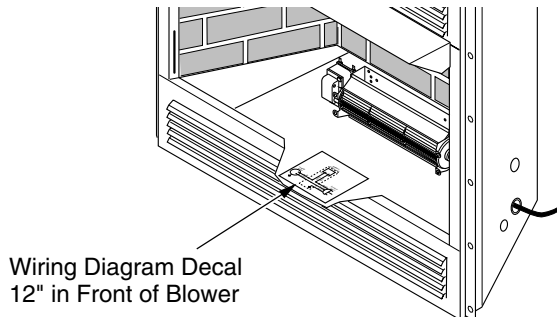

Figure 27 - Location of Wiring Diagram Decal (Model May Vary From Illustration)
10. Peel off the backing paper and stick the supplied wiring diagram decal on the firebox bottom approximately 12" in front of the blower (see Figure 27, page 17).
11. Peel off the backing paper and stick the supplied wiring diagram decal on the firebox bottom approximately 12" in front of the blower (see Figure 27).